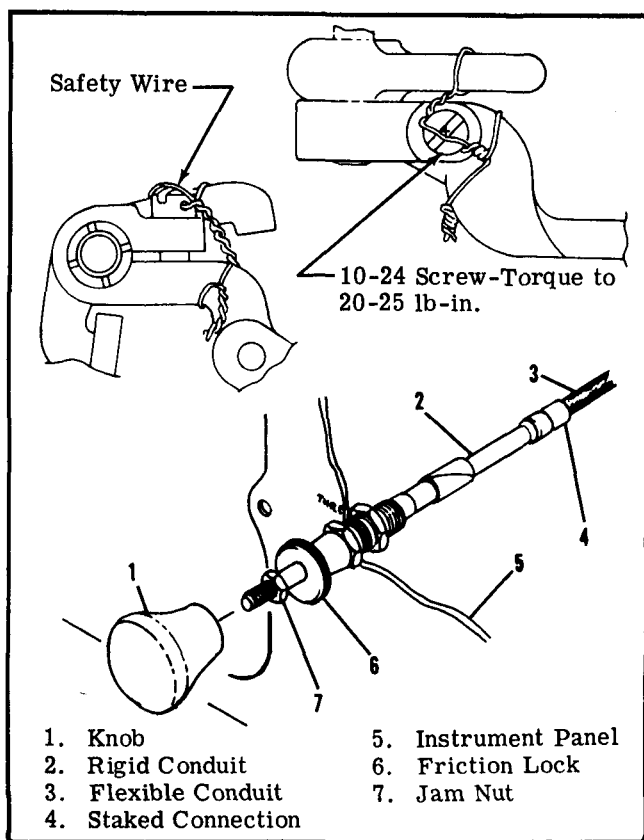

Figure 11-8. Throttle Control
- i. Reverse the preceding steps for reinstallation. Use new gaskets when installing carburetor. Rig controls in accordance with paragraphs 11-58, 11-59 and 11-60. Check carburetor throttle arm to idle stop arm attachment for security and proper safetying at each normal engine inspection in accordance with figure 11-8.
Before rigging throttle control shown in figure 11-8, check that staked connection between rigid conduit and flexible conduit is secure. If any indication of looseness or breakage is apparent, install new throttle control before continuing rigging procedure.